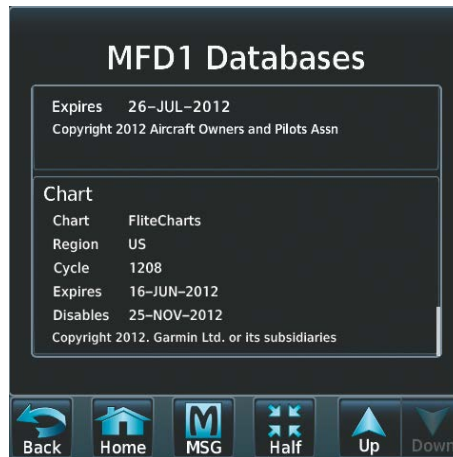

Figure 8-32 MFD FliteCharts Database Information
FliteCharts status information can be found on the MFD1, PFD1, PFD2, GTC1, and GTC2 Databases Screen (Figure 8-32). The ‘Expires’ date is the revision date for the next database cycle. The ‘Expires’ date appears in yellow when expired.
- 4) Scroll to display the FliteCharts database information as shown in Figure 8-32.